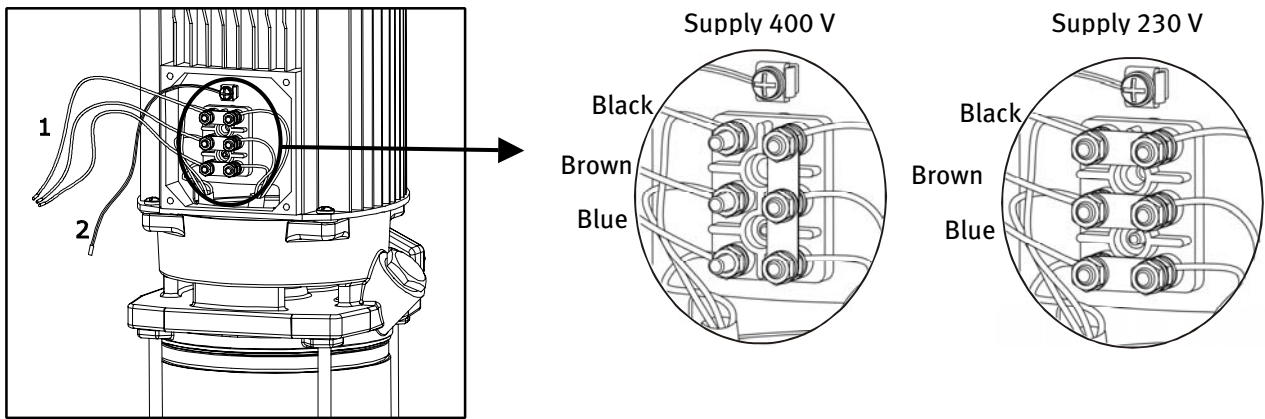

Figure 2
3.2.2) ELV with three-phase motor (figure 2):